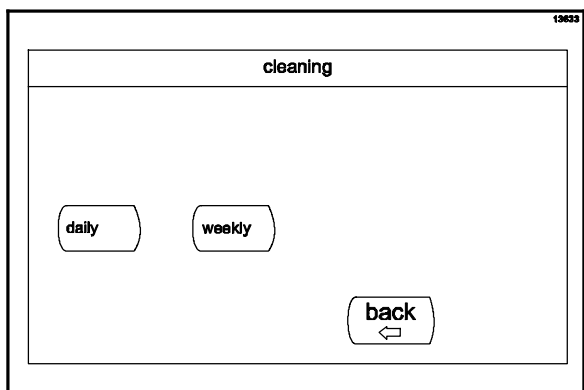

Figure 42
3. Press the DAILY key. (See Figure 42.)